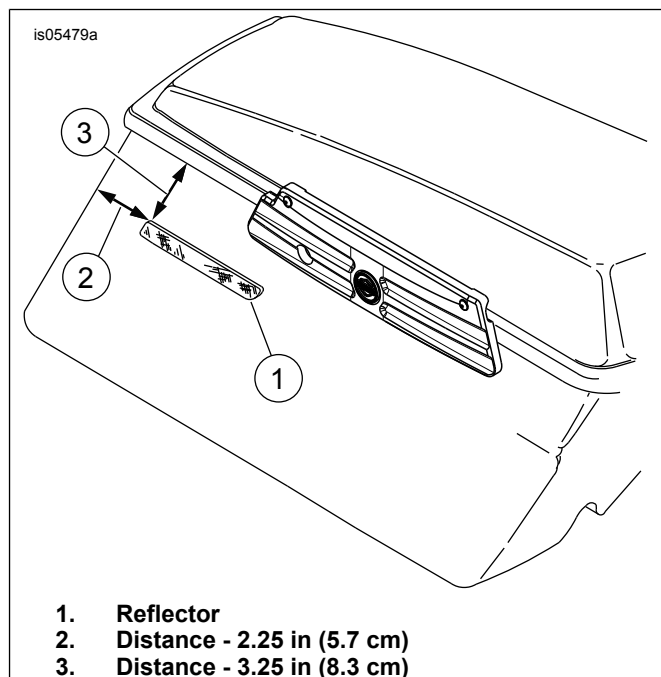

Figure 4. Reflector Location
1. See Figure 4. Using a 50/50 isopropyl alcohol/water solution, thoroughly clean the reflector mounting location. Allow it to dry completely.